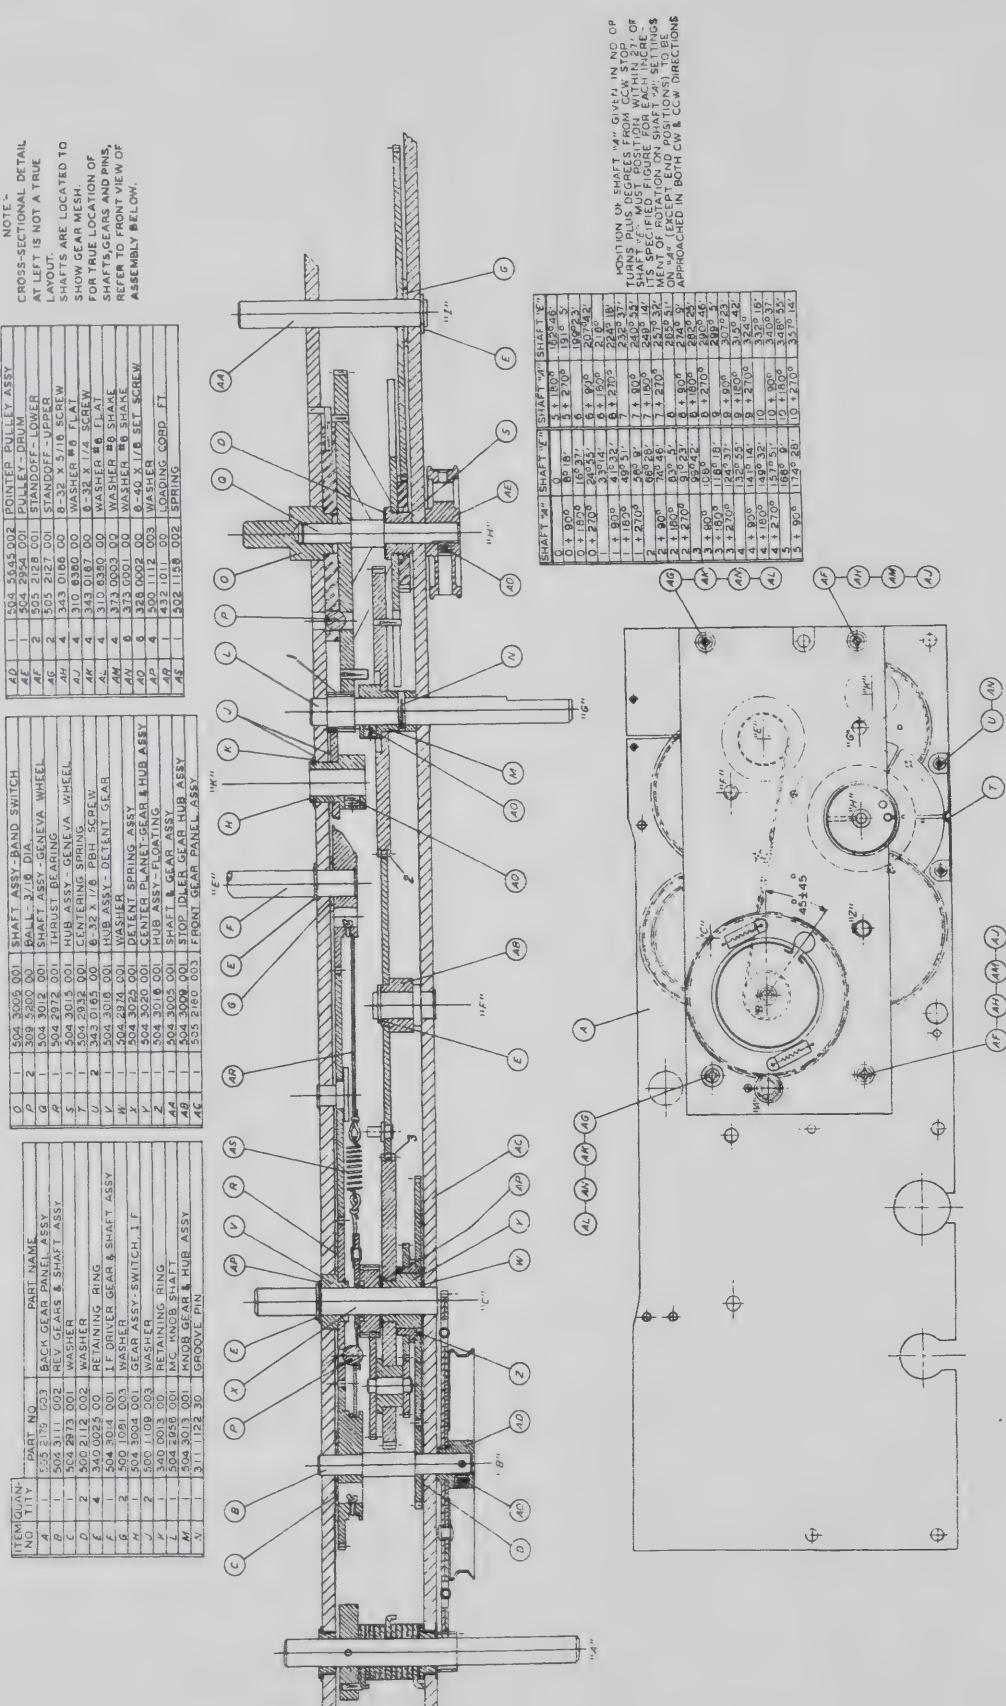

Figure 5-4. 51J-4 Dial and Bandswitch Gear Box
(1) Turn shaft G (BAND CHANGE) clockwise to the stop below band 1. Turn shaft A counterclockwise to the stop.
(2) Scribe a mark across the 85-tooth spider gear that carries the planetary gears, and across the 90-tooth stop-pin gear, using the top of the front gear panel as a guide.
(3) Scribe a radial mark, precisely under the Geneva wheel detent, on the 144-tooth gear that has two stop pins attached.
(4) Using the circumference of the Geneva wheel as a guide, scribe a mark on the 85-tooth gear that drives the Geneva wheel.
(5) Scribe a mark through the edge of the small dial cord pulley and the front gear panel.
(6) Remove pin from hub of large dial cord pulley.
(7) Remove large dial cord pulley and gear.
(8) Remove small dial cord pulley.
(9) Remove retaining ring from shaft I (shown as shaft Z in the front view of gear plate in figure 5-4).
(10) Using a pair of right angle TRUARC pliers or two bent (right angle) scribes, remove retaining ring from shaft F.
(11) Measure and record the length of loading spring using a pair of dividers.
(12) Remove four mounting screws from front gear panel.
(13) Remove front gear panel, being very careful not to let shafts ride up with plate. While removing this panel, do not allow gears to unmesh or rotate.
(14) Keep shim washers with respective gears or shafts.
(15) Before moving or disengaging any gears other than the 90-tooth gear on shaft F, scribe a line through detent spring, 48-tooth detent gear, and rear gear panel, and another line through the 52-tooth gear on shaft E and rear gear panel.
(16) Mark all gears being removed in such a manner that they may be identified later for reassembly.
(17) If the overtravel coupler is removed, note that the disk and gear are detented. Do not lose detent ball.
(18) Make all necessary repairs. If any parts that have been scribed are to be replaced, be sure to scribe the new parts in exactly the same manner before placing them in the equipment. If the loading cord is to be replaced, form a small loop at one end of each of the two pieces to provide anchors for the spring. Push free ends of the cords through the proper pulley-holes. Knot the free ends after allowing for five inch lengths of cord between the loops and knots. Coat the knots with Duco cement.
(1) Shaft G should now be against the clockwise stop, and should detent when turned counterclockwise approximately 45° . The ball on shaft C will now detent shaft G every 180° .
(2) When shaft G is turned counterclockwise $7\frac{1}{2}$ revolutions, or 15 detent positions from the first detent position, the pin in the 144-tooth gear on shaft H (figure 5-4), and the radial pin on the overtravel disk rotate clockwise until the radial pin just touches or is about to touch the pin in the rear gear panel. Further rotation of shaft G causes the pin in the gear to leave the radial pin that was stopped by the pin in the rear gear panel. Thus the overtravel coupler output shaft, which drives r-f switches S101 through S107 (figure 4-2), rotates 300° for the first 16 detent positions of shaft G and remains at that setting for further counterclockwise rotation of shaft G.
(3) Shaft G should rotate 14 more detent positions or 7 revolutions from the sixteenth detent position, and should hit the counterclockwise stop approximately 45° past the thirtieth detent position. If the stop pins intersect before this, adjust them by changing phase relations of the gears at points 1, 2, and 3, shown in figure 5-4. Before deciding to change the relative positions of these gears, double check the conditions in steps (1), (2) and (3). If instructions in paragraphs 5.6.2. and 5.6.3. were followed precisely, operation of the BAND CHANGE
(r) Replace large dial cord pulley and gear assembly as follows: Turn shaft A to counterclockwise stop. Make sure that the 52-tooth gear on shaft E and the 48-tooth detent gear on shaft C are still set at their respective scribe marks. Place pulley and gear assembly far enough on shaft B to engage the rear section of the split gear with the 15-tooth gear on shaft A. Be sure the groove-pin holes on shaft and hub are lined up and that the pulley slot is within 45° of the position shown in figure 5-4. Rotate front section of split gear so that springs stretch to 3/4 inches. Engage front section with 15-tooth gear on shaft A. Replace groove pin and tighten set screw.